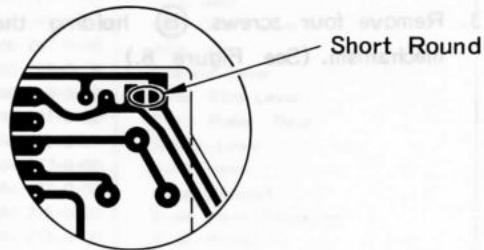

Figure 12
9. After you connect the wire connectors, desolder and remove the shorting tab. (See Figure 12.)
11. Replace two screws ⑤ .
12. Replace gear and washer ⑥ .
13. Replace four screws ⑦ holding the CD mechanism.
14. Replace two screws ⑧ holding the CD PDB.